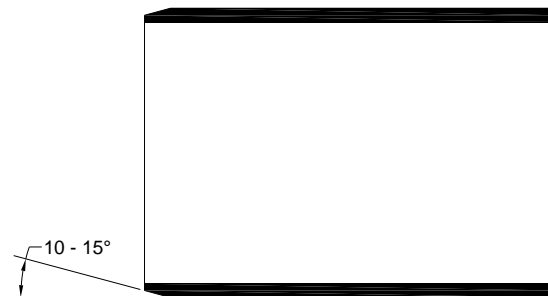

Figure 6
4. Use a knife, file or reamer to remove burrs from the inside and outside of the pipe end, as these will hinder the integrity of the joint. All sharp edges should be removed from the inside and outside edges of the pipe to prevent the pipe from pushing the solvent cement into the fitting socket, thereby causing a weak spot to form. The pipe end should be chamfered, as shown in Figure 6.